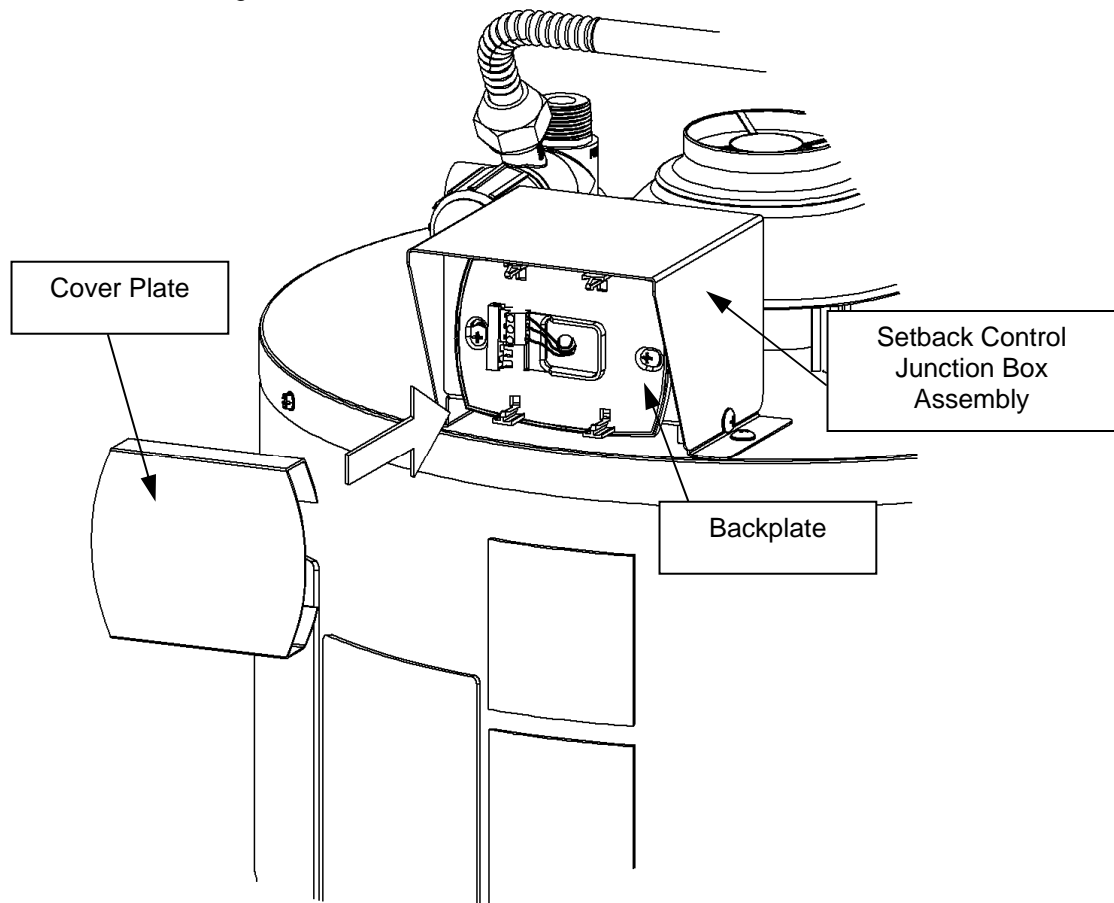

Figure 101
Step 21: Snap the Setback Cover Plate onto the backplate (located on the Setback Control Junction Box Assembly). This is shown in Figure 101.